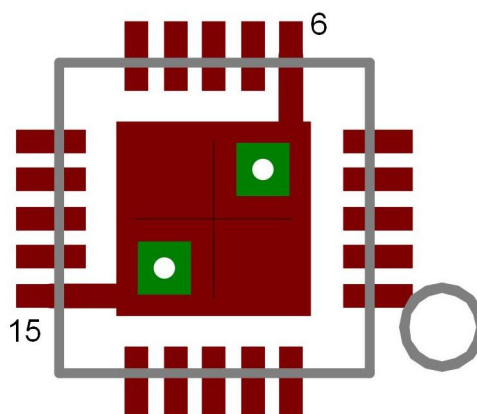

Figure 15. Ground Connection Recommendation
2. Connect Pin 6 and Pin 15 to the “ground pad” of the NCP1840’s package – see Figure 15.
3. Place vias on the “ground pad,” connecting the GND of the NCP1840 directly to the PCB ground plane – see Figure 15.